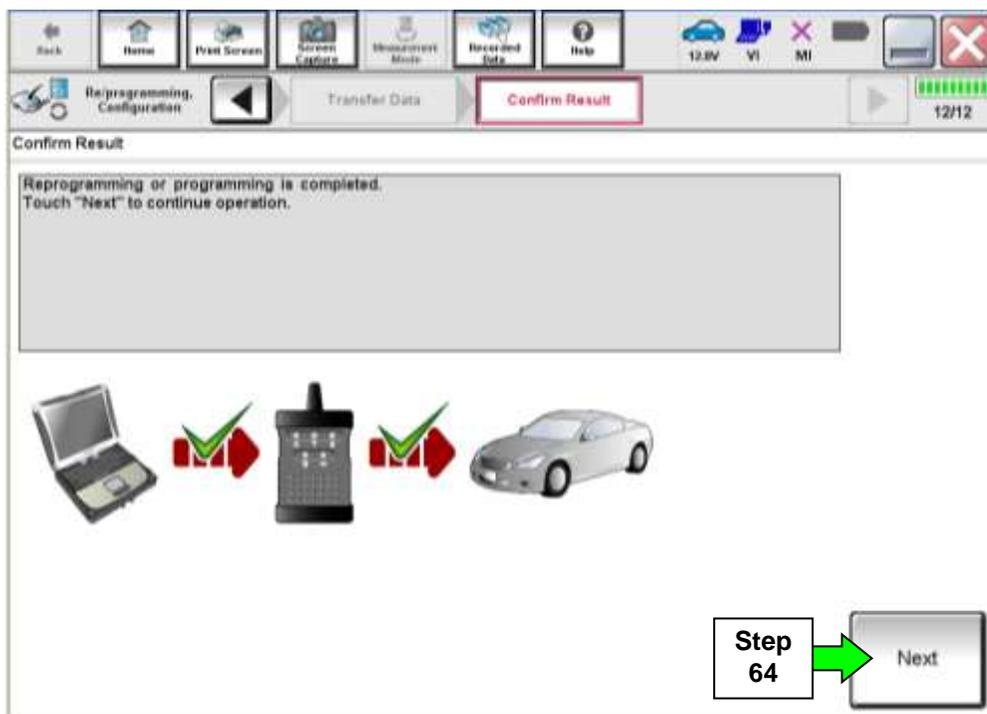

Figure 42
63. When the screen in Figure 42 displays, reprogramming is complete.
NOTE: If the screen in Figure 42 does not display (indicating that reprogramming did not complete), refer to ICC/ADAS recovery on the next page.